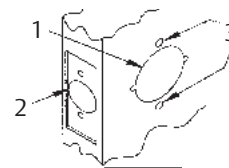
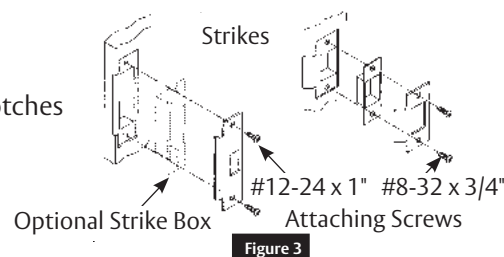

Figure 2
Figure 3
6. Drill two (2) 11/32" (8 mm) diameter holes through door for all functions. Install strike. (Figure 2 and Figure 3)